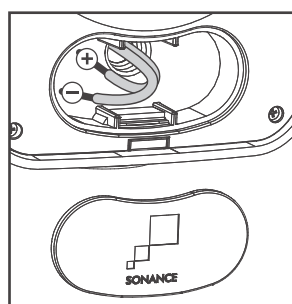

FIGURE 9:
- C. Insert the wires into the connector holes (see figure 9).